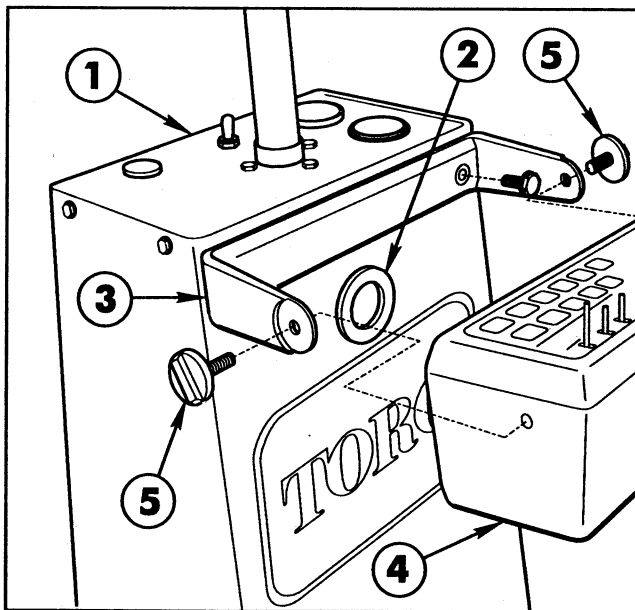

FIG. 1
1. Remove four (4) 1/4" x 5/8" washer hd cap screws to remove the Rear Panel from the Steering Console.
2. Remove the knock-out plug in the front of the Steering Console and insert the large grommet. See FIG. 1.
3. Remove the "U"-shaped Mounting Bracket from the Console Computer and secure the Mounting Bracket to the Steering Console with two (2) 1/4" x 3/4" washer hd. screws as shown in FIG. 1.
4. Reinstall the Console Computer within the Bracket and secure with the two (2) Mounting Knobs.